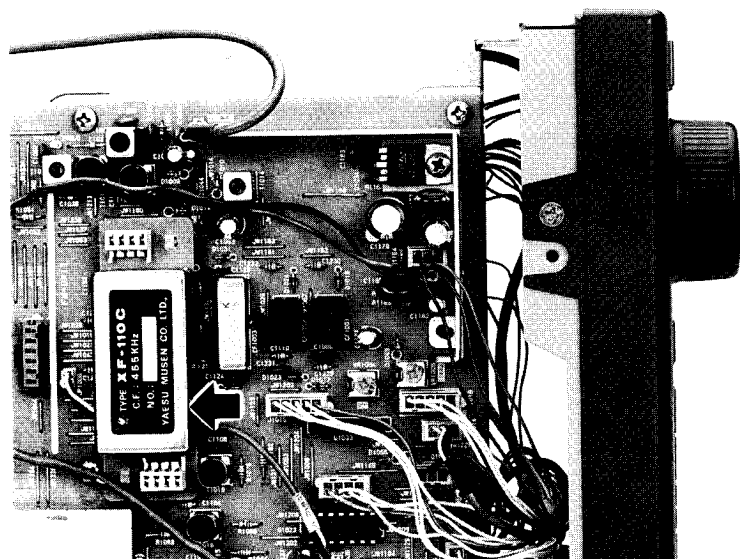

Figure 5: Filter Installation
- When the filter unit has been mated to the connector pins, gently press down *by the ends* until the nylon mounting stand-offs push through the holes in the filter unit board and expand to lock it in place (Figure 5). You may now replace the cover.